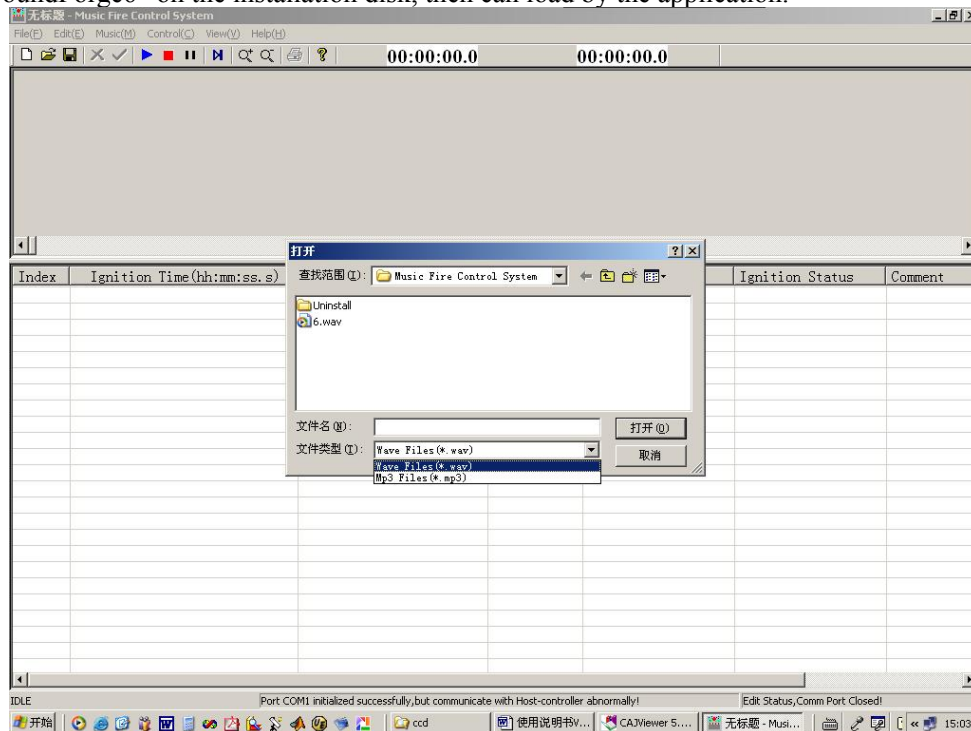

fig 20 Load Music
- 4、The control software automatically enter the edit status when start up. In this status, the user can load/remove the music, add/remove/edit the control points. Click the menu “Music” → ”Load Music”,the open file dialog as show in fig 20 will popup. In the application, there are two kinds of song can be added in, WAV and MP3. CD songs can be converted to the wave files used the tool-“SoundForge6” on the installation disk, then can load by the application.